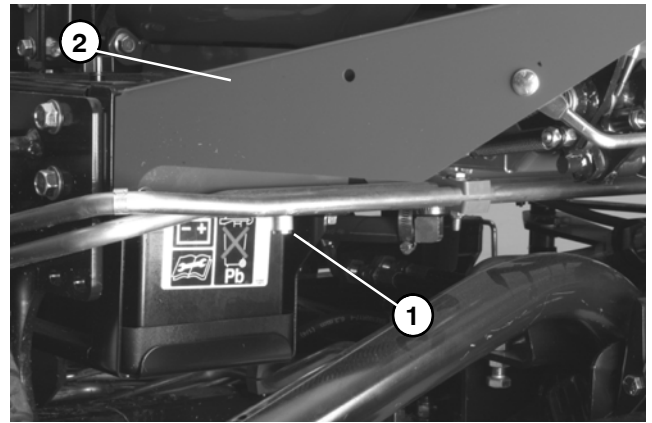

Figure 53
5. Remove plug from hydraulic tube connected to front wheel motors (Fig. 53). Connect test gauge with a hydraulic hose attached to the hydraulic tube opening. Make sure hose is long enough so the operator can read gauge while driving the machine.